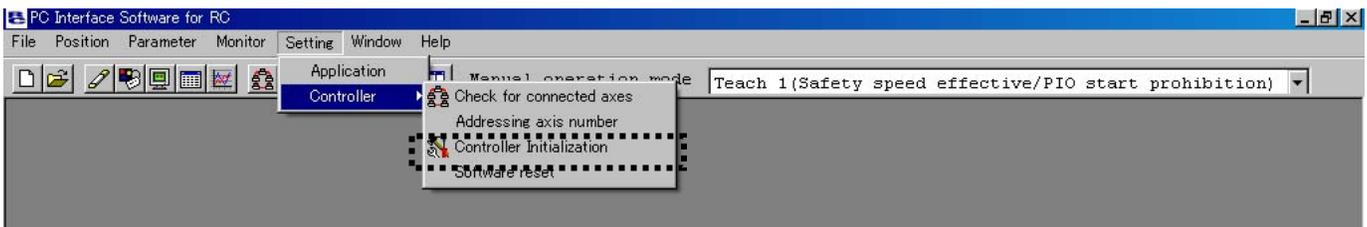

Fig. 16.3 Menu Bar (Parameter Initialization (Factory Default Setting))
- (2) Input the password (5119) on the displayed input password window, then the “Controller Initialization” (factory default setting) menu is displayed (Fig. 16.3).